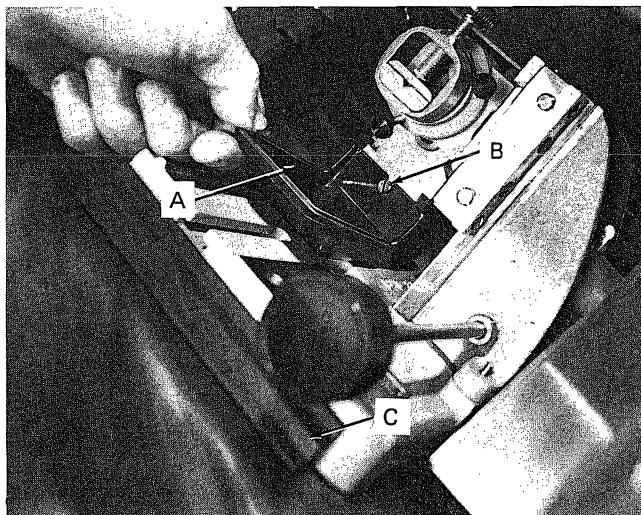

Figure 5
5. Attach the catch tray, A, Figure 5, by positioning back edge of tray under holding screw B, Figure 5. Push front of tray down to secure in position.
7. Lay the brush holder, C, Figure 5, in position as shown.